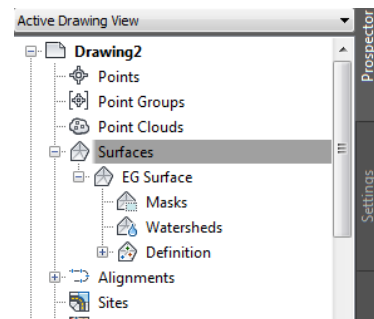

Figure 3-56 The EG Surface added in the Surfaces node of the Prospector tab
4. Now, ensure that the **TIN surface** option is selected in the **Type** drop-down list of the **Create Surface** dialog box and choose the **OK** button; the dialog box is closed. Also the surface is created and added to the **Surfaces** node in the **Prospector** tab of the **TOOLSPACE** palette, as shown in Figure 3-56.